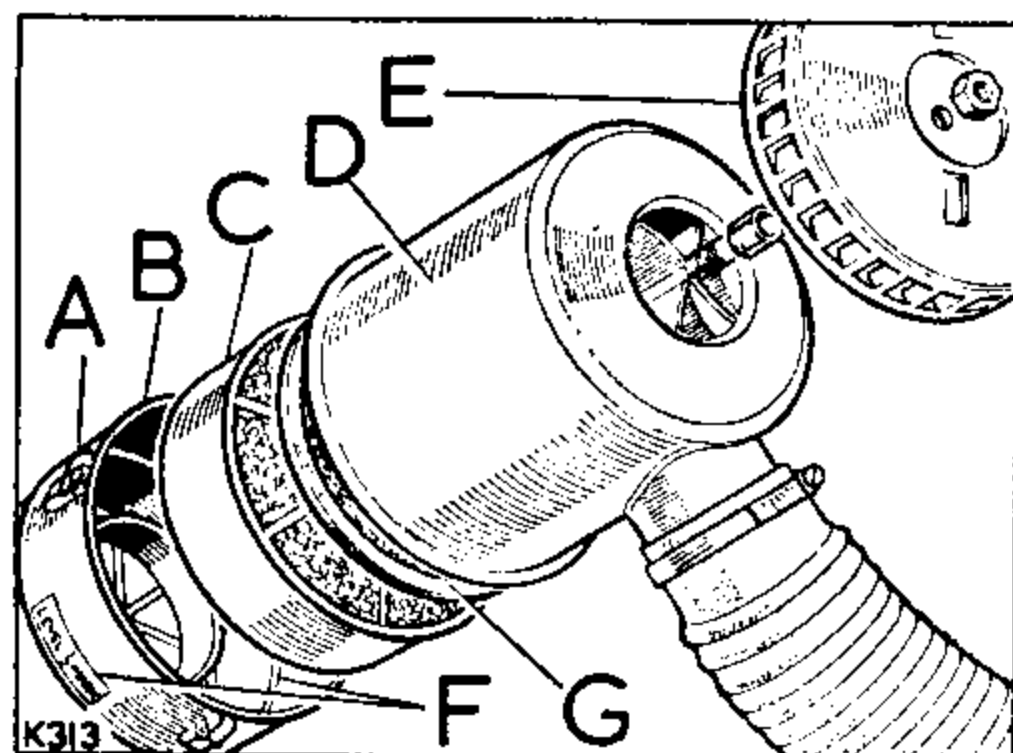

Fig. A1-3. Exploded view of air cleaner
1. Fill the oil container with clean engine oil to the oil level mark on the container. See Fig. A1-3.